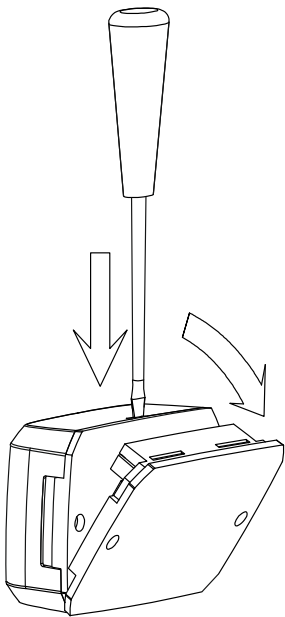

Figure 2. Opening S2000-AR2 Rev.02 Enclosure
- 3.4 Remove the module cover from its base using a flat-head screwdriver (see Figure 2).